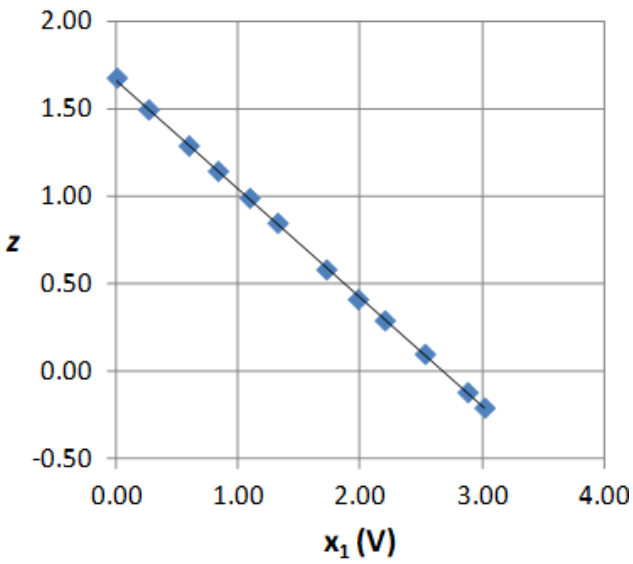

Figure 3: Graph of $x_1(V)$ vs z for Task 4
Measurements close to the maximum output voltage should be avoided because of the large systematic error in calculated values of z when approximating in equation (1) the unknown A with $y_{\max}$. Therefore, the suitable set of measurements is along the path (0,0)-(3,0)-(3,3)V in the x_1, x_2 -plane. Tables 2 and 3 summarize the results of measurements along the lines (0,0)-(3,0)V and (3,0)-(3,3)V respectively. The values of the variable z calculated by means of (1) are shown in the last column of the tables. Figure 3 shows the data in Table 2 in variables z and x_1 with the corresponding linear fit. The weight w_1 corresponds to the slope of the fitting line: